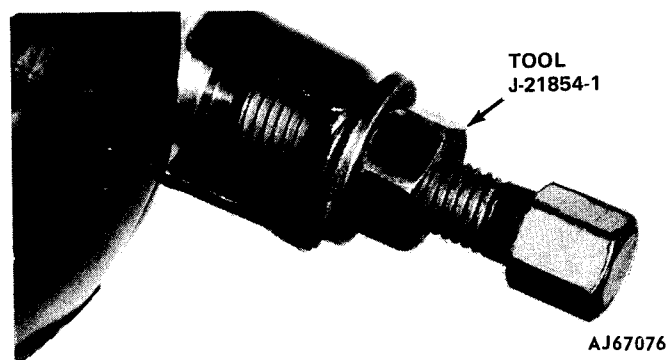

Fig. 11-38 Pivot Pin Removal
- (30) Place upper housing in straight position.
- (31) Remove two pivot pins using Pivot Pin Remover Tool J-38854-1 (fig. 11-38).
- (32) Lift tilt release handle to disengage lock shoes and remove bearing housing assembly.
- (33) Remove tilt release lever.